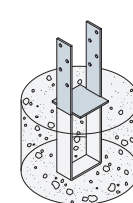

Fig 1: CBQ cast into concrete
- Position CBQ into pre poured wet concrete so that bottom of the base plate is flush with the top surface of the new foundation (Fig 1)